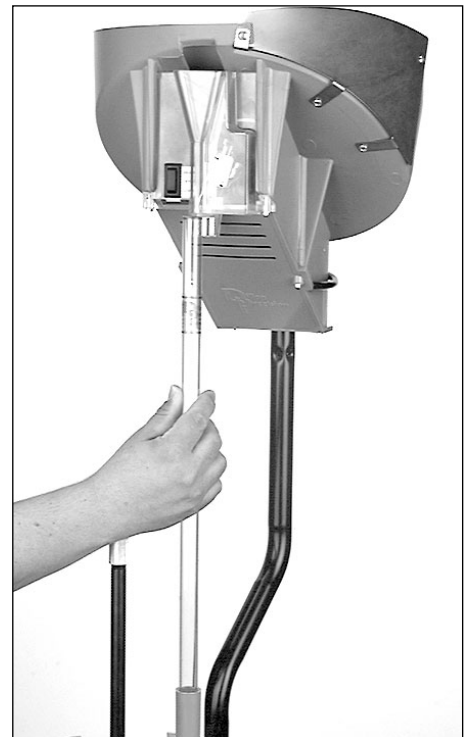

FIG 23
5. Align the casefeed bowl so the spring clamp is directly over the casefeed adapter. Place the casefeed tube into the casefeed adapter then snap the tube into the clamp **FIG 23**.